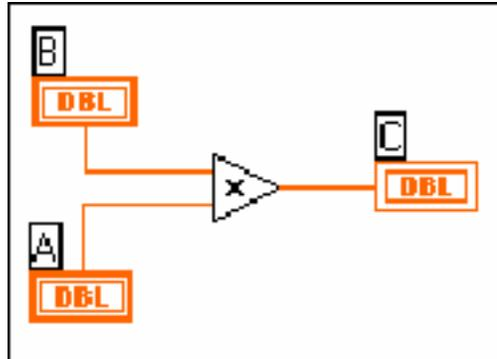
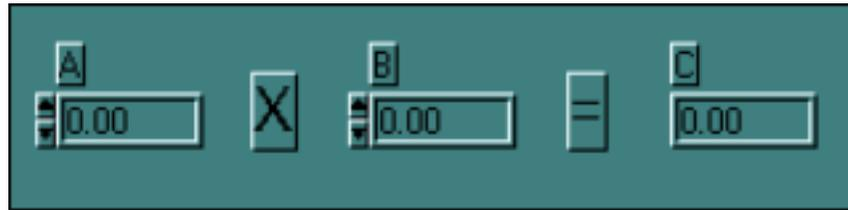

Figure 2. Program for Multiplying Two Numbers and Displaying the Result
Figure 3. Front Panel for a Two-Number Multiplication Program
LabVIEW programming consists of drawing pictures that specify data dependencies. The LabVIEW programming environment includes a large set of blocks to specify operations and a Wiring tool to connect them together. As an example, Figure 2 shows the operation of multiplying two numbers and displaying the result.
A LabVIEW program, called a virtual instrument (VI), is a two-window system. The code is in one window and the user interface (inputs and outputs) appears in a separate window. The program window is the block diagram window, and the user inputs and outputs are in the front panel window. Figure 2 shows a sample program that would appear in the block diagram window. The numbers are entered into the computer and displayed in the front panel window shown in Figure 3. The two boxes on the left (labeled **A** and **B**) are controls, and the box on the right (labeled **C**) is the output or indicator. (The **X** and **=** are only displays showing the operation of the VI and not inputs or outputs.) The three boxes are
associated with like labeled boxes in the diagram window shown in Figure 2.